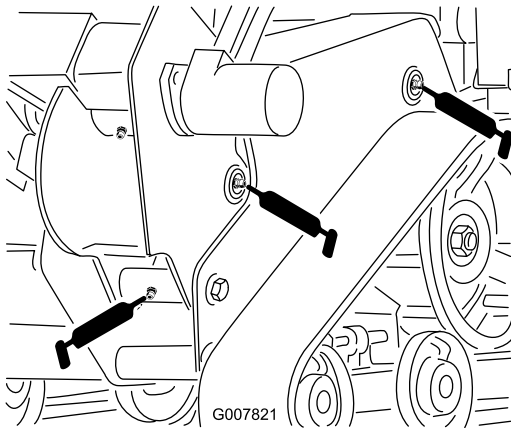
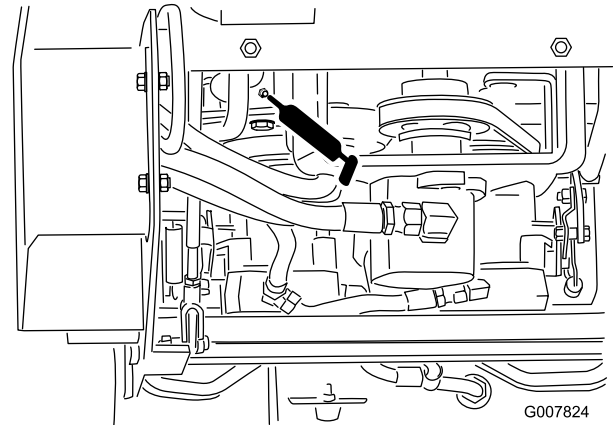

Figure 27
Figure 30
3. Connect a grease gun to each fitting (Figure 27 through Figure 30).